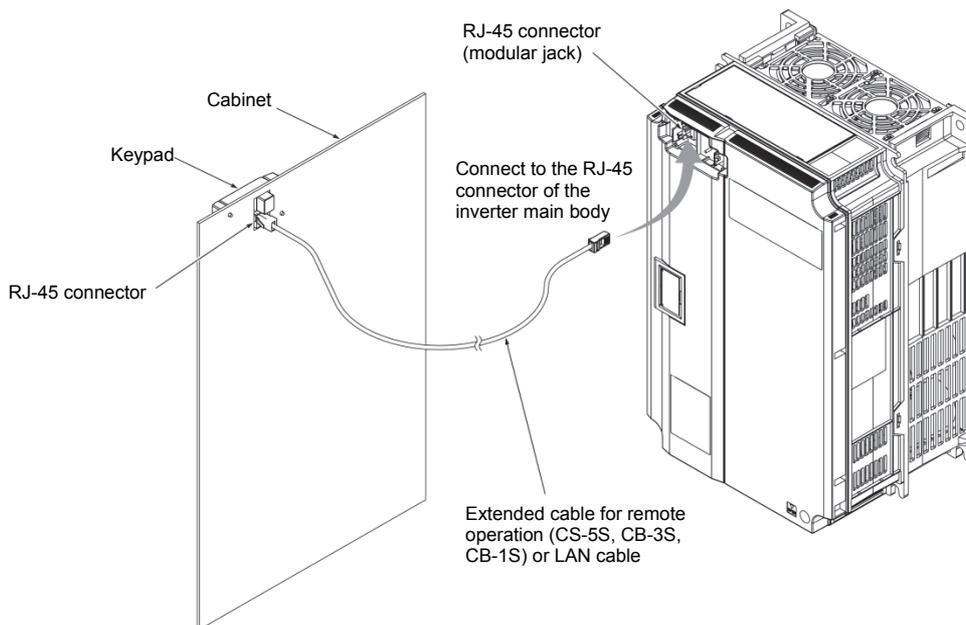

Figure 2.3-8 Connection of the Extension Cable or the Commercially Available LAN Cable between the Keypad and the Inverter Main Body
- (5) Connect the extended cable for remote operation (CB-5S, CB-3S, CB-1S) or the commercially available LAN cable (straight) to the keypad RJ-45 connector and the inverter main body RJ-45 connector (modular jack). (Refer to Figure 2.3-8.)